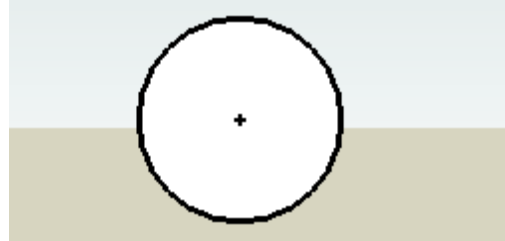

Figure 3-60
1. Start with a circle in Front view. Add a construction point by right-clicking on the circle edge and choosing Point at Center (Figure 3-60). This construction point will make it easier to move log components into place later.